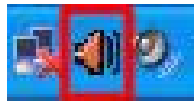

Figure C-1: Realtek HD Audio Manager Icon [Task Bar]
- The Realtek HD Audio Manager icon in the Notification Area of the system task bar (**Figure C-1**), or